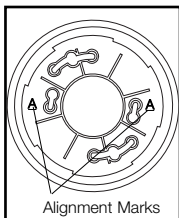

FIGURE 5
2. After selecting the proper smoke alarm location as described in Section 1, attach the mounting plate as shown in Figure 5 and Figure 5A. Use the screws and anchors provided to secure the mounting plate (use 3/16" drill bit for anchor holes). To ensure aesthetic alignment of the alarm with the hallway or wall, the "A" line on the mounting bracket should be parallel with the hallway when ceiling mounted, or horizontal when wall mounted.